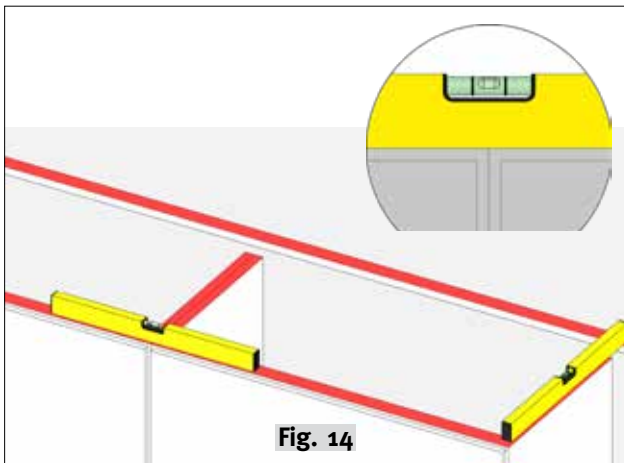

Fig. 14
- 3a. The cabinets should be placed perfectly levelled (**fig. 14 and 15**).